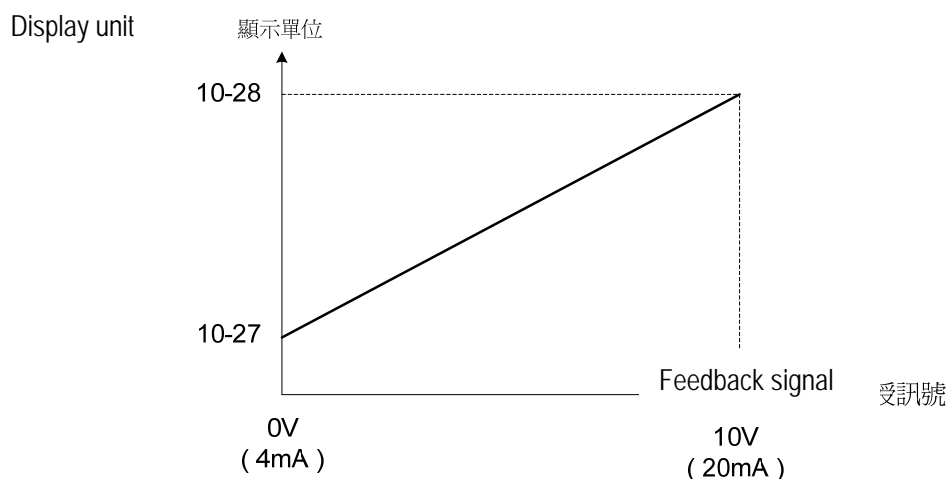

Figure 4.3.84 Display the unit conversion
- . For example, the feedback value of 0 - 10V or 4 - 20mA will be displayed as pressure. Use 10-27 to set the pressure unit (PSI unit) to 0V or 4mA feedback signal and use 10-28 to set the pressure value corresponding to 10V or 20mA. Refer to the figure 4.3.84 for displaying the unit conversion.